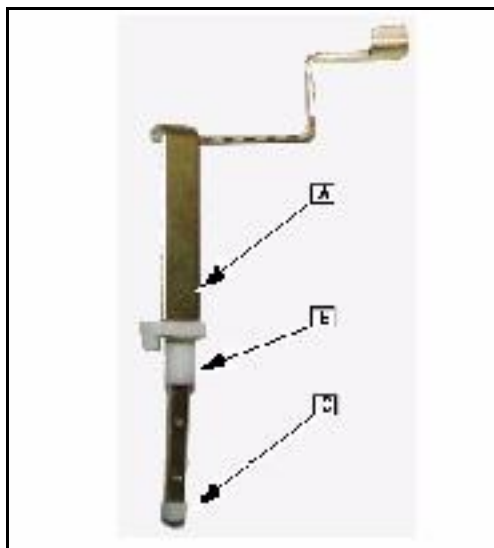

Fig. 33
10. Lift out choke shaft (A) with upper (B) and lower ([C] Fig. 33) choke shaft bushings.